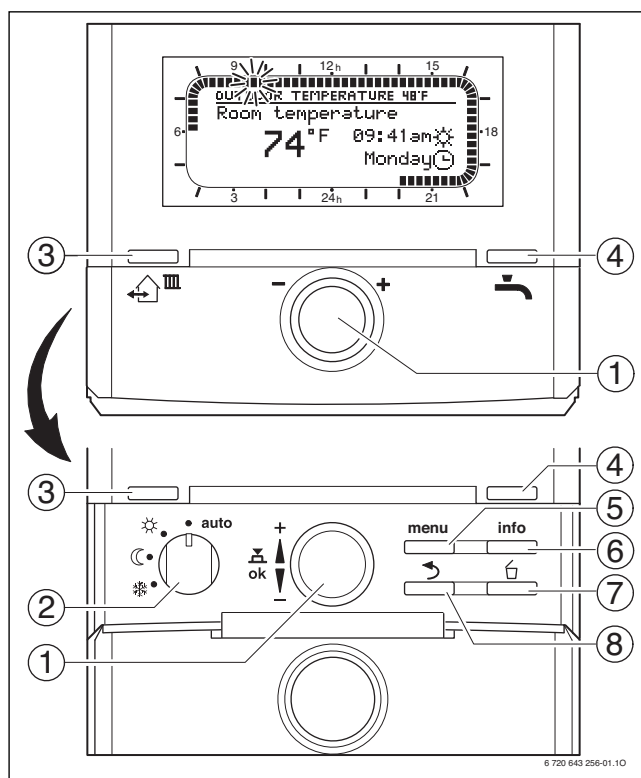

Fig. 63 FW 200 heating control with front flap closed / flap opened
**Legend to Fig. 63:**
In the following description, at any time, pressing the menu button (→ Fig. 63, [3]) will bring you back to the standard display.
- ▶ Turn the dial  (→ Fig. 63, [1]) to adjust time and date.
- ▶ Press and hold the menu button  (→ Fig. 63, [5]) until this prompt disappears.
- ▶ Press the menu button  (→ Fig. 63, [5]).
- ▶ Turn the dial  (→ Fig. 63, [1]) counter-clockwise until **General settings** is highlighted.
- By turning the selector (→ Fig. 63, [2]) to the comfort symbol (☼).
- ▶ Press the menu button  (→ Fig. 63, [3]).